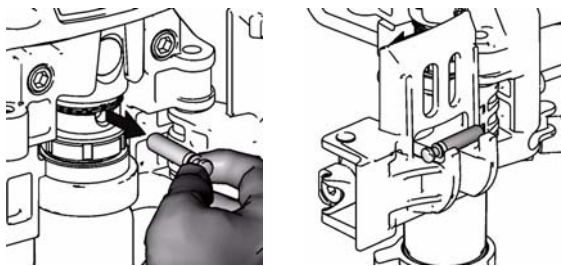

FIG. 19
2. FIG. 19. Stop pump with piston rod in its lowest position.
- 10. FIG. 19. Pull out pump pin and place in pin holder